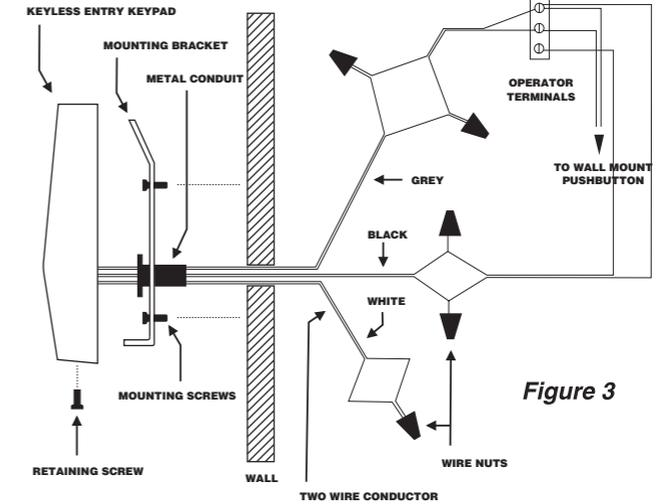

Figure 3
- c) **For Model 4100-05** attach 25 foot black wire to black wires coming from the keypad with wire nuts. Pull wire taut and secure with one of the insulated staples. Be sure to staple on the **OPENER SIDE OF THE WIRE NUTS ONLY**. Run the black wire from the keypad to the powerhead of your opener, being sure to secure the wire with the staples provided so that it does not interfere with the operation of the door. Connect this wire to the 24 VAC operator terminals on the back of the operator. Firmly secure the two wires with the screw terminals. Do not remove pushbutton wire. (See Figure 3).